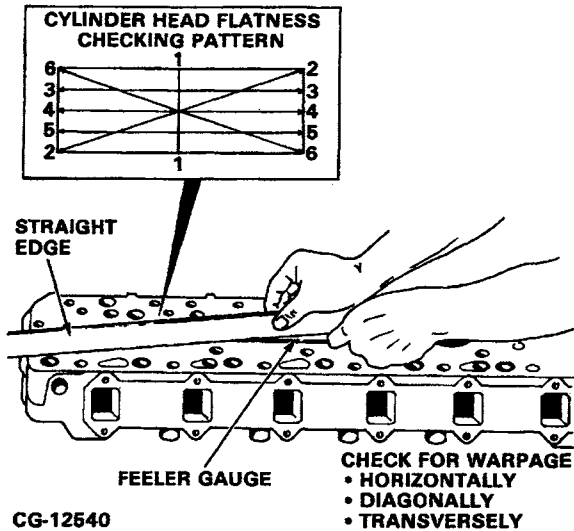

Figure 4.10. Inspect Cylinder Head for Warpage
1. Using a straightedge and feeler gauge, check the cylinder head gasket surface for warpage utilizing the checking pattern shown in Figure 4.10. If specifications are **NOT** met, check head thickness prior to resurfacing. The minimum deck to deck dimension must be maintained after resurfacing.